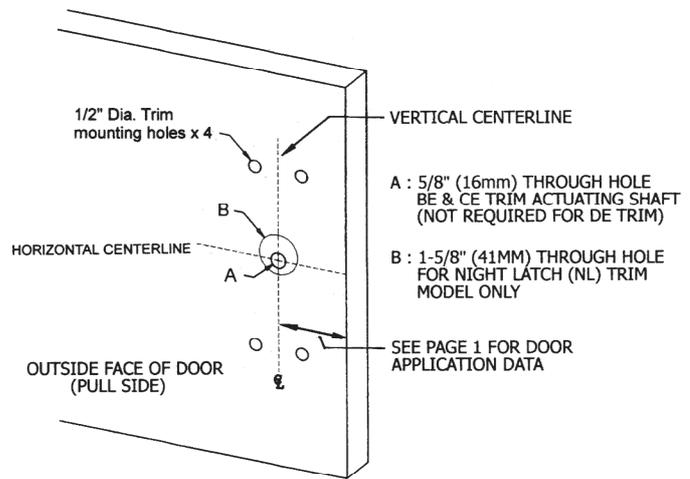

Fig. 7
4. Mark and drill a 5/8" hole for trim actuating shaft, which mates with exit device. (See A on Fig. 7.)
5. Mark and drill a 1-5/8" hole, centered 1/4" (6mm) above horizontal centerline, for Night Latch Trim model only. (See B on Fig. 7.) For further details, see the Night Latch Trim template.